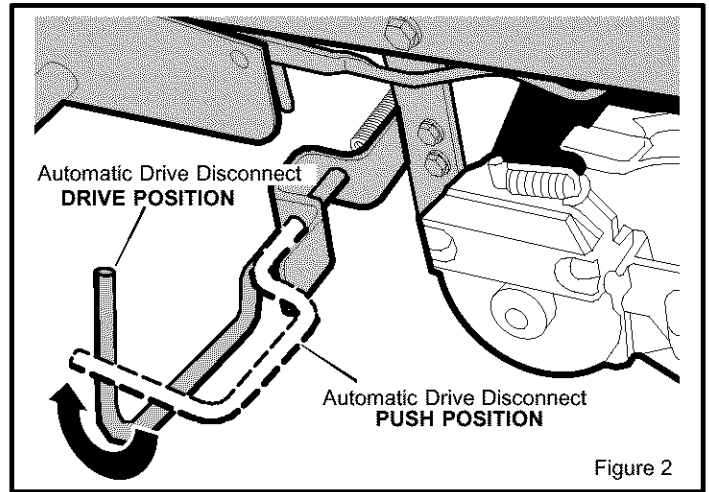

Figure 2
To allow the unit to be pushed, the unit was shipped with the **automatic drive disconnect** in the PUSH POSITION. Before operating, the **automatic drive disconnect** must be set in the DRIVE POSITION. (Figure 2)
4. To push the unit, move and latch the **automatic drive disconnect** in the PUSH position (Figure 2). The transmission is now *released* and the unit can be pushed.